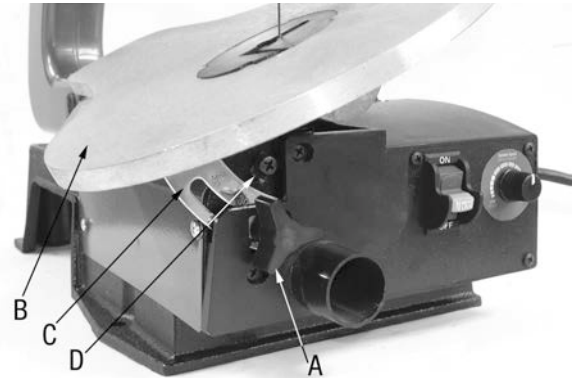
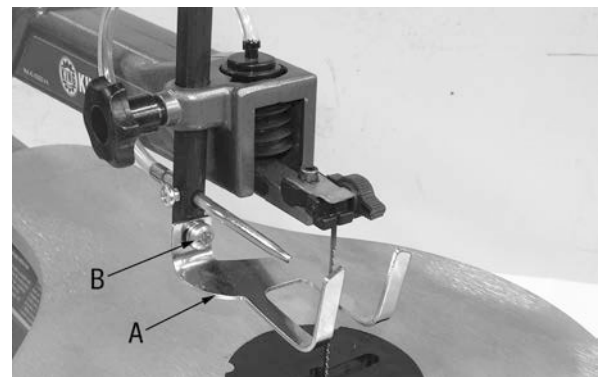

Figure 4
Figure 6
1. Loosen the table lock knob (A) Fig.4, the saw table (B) can be tilted to the left and locked at any angle from 0° horizontal cutting position and up to 45° for bevel cutting.
2. A degree scale (C) is provided under the table as a convenient reference for setting the approximate table angle for bevel cutting. When greater precision is required, make practice cuts and adjust the table as necessary for your requirements.
3. NOTE: When cutting at angles, the drop foot (A) Fig.6 can be tilted so it is parallel to the table and rests flat against the workpiece. To tilt the drop foot, loosen the pan hd screw (B) which holds the drop foot in place and tilt it parallel to the table and securely retighten the pan hd screw.
1. Loosen the table lock knob (A) Fig.4 and move the table (B) until it is approximately perpendicular, or at a right angle to the blade.
3. Loosen the screw holding the degree scale pointer (D) Fig.4, move the pointer to the 0 degree mark and securely tighten the screw. Remember, the degree scale is a convenient guide but should not be relied upon for precision. Make practice cuts in scrap wood to determine if your angle settings are correct.